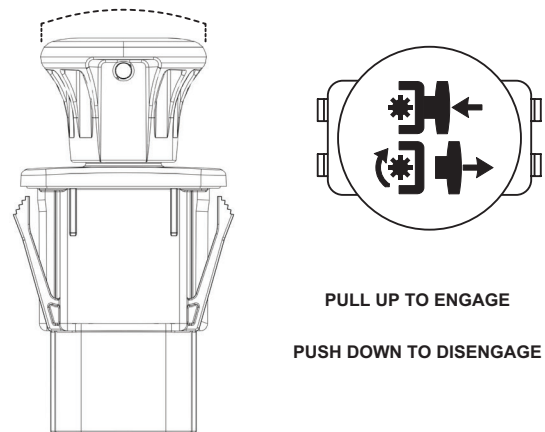

Figure 2-2. PTO Switch Function
3. Engage the cutter deck by pulling the yellow PTO switch, located on the instrument panel, up. See Figure 2-2 for more information.